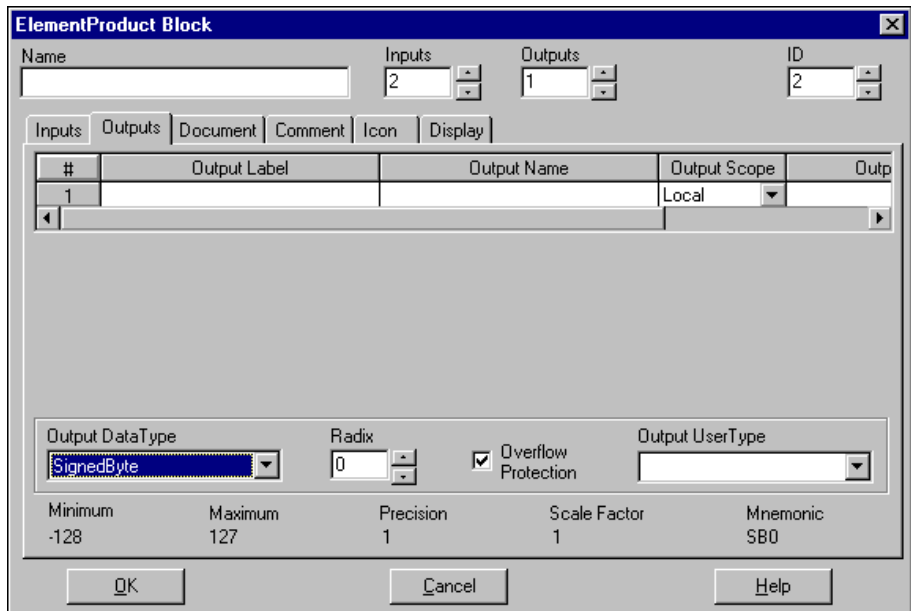
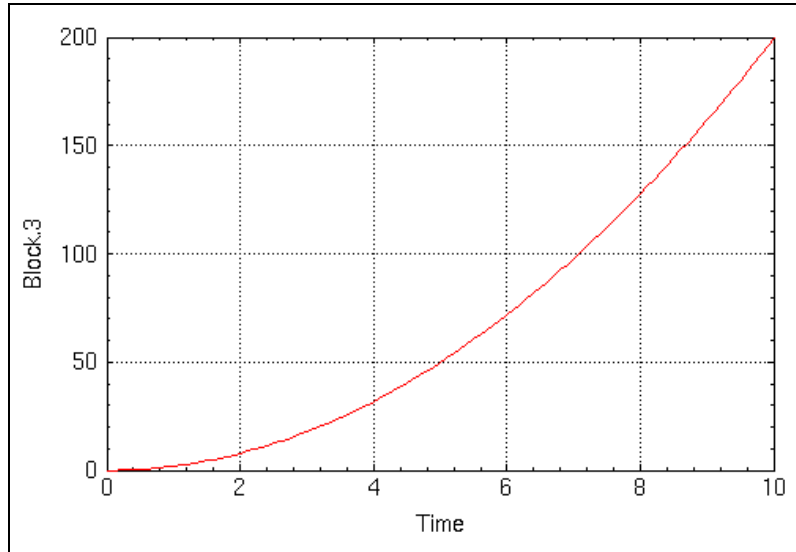

Figure 15-4. Outputs Tab with Signed Byte Chosen
Figure 15-5. Fixed-Point Plot without Overflow
- Select the block, and press <Enter> or <Return> to raise its block dialog. On the Outputs tab, select **Signed Byte** from the Output Data Type combo box on the right. Refer to Figure 15-4.
Refer to Figure 15-5 for the way the plot should look. The range of the `y` output is `[0, 200]`, and, as shown in the Output block dialog box in Figure 15-4, that is outside the range of the output data type, `SB0`. However, the `fixpt` keyword is not activated. Therefore floating-point arithmetic is performed without the absolute fixed-point limitations on the output.
Observe what is happening here. The value increases until 127, the maximum number for the SB0 data type, is reached, then it flattens out. The range of output values for the simulation run would be [0, 200], which is outside the range of the SB0 output data type as seen in Figure 15-4. SystemBuild responds to a data out-of-range (overflow), by truncating the output value at the extremal range point. If the output value stops overflowing the output data type, the simulation stops returning maximal values.